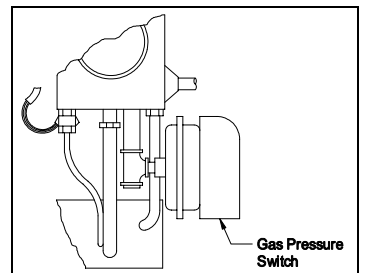

Figure 7
3. Install the gas pressure switch into the side of the pipe tee. The gas pressure switch is supplied with a restrictor orifice in the inlet and outlet ports. With these orifices in place, the switch does not need to be vented. This feature complies with current ANSI standards for gas regulators. (See Figure 7).